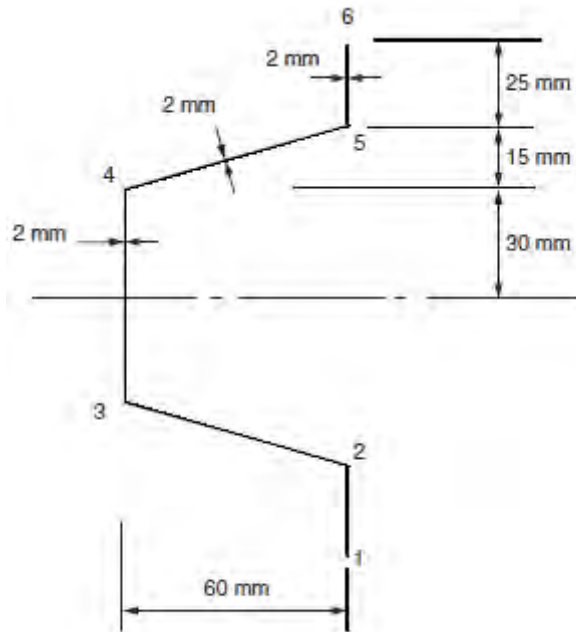

Figure 5:
7. Determine the rate of twist per unit torque of the beam section shown in Figure 5 if the shear modulus G is $25\,000\text{ N/mm}^2$. [16]